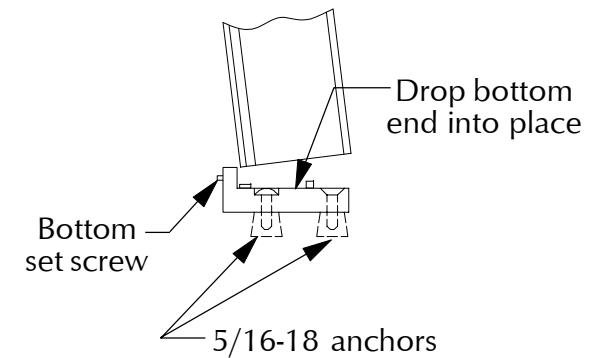

Figure 9
4. Insert mullion in top fitting and slide bottom of mullion into place in bottom fitting (see Figure 9 on reverse side).
6. Raise top mullion clamp over top mullion fitting and secure with mounting screws (see Figure 9 on reverse side).
8. Adjust strikes for $1/32''$ clearance between latchbolt and strike (see Figure 9 on reverse side).